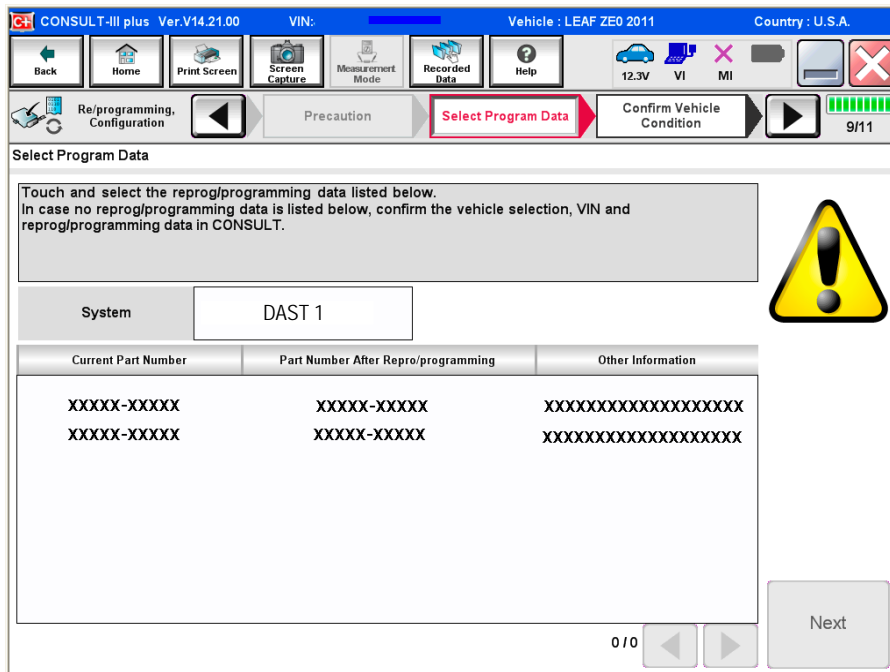

Figure 10
- If more than one P/N is available, the screen in Figure 10 will display.